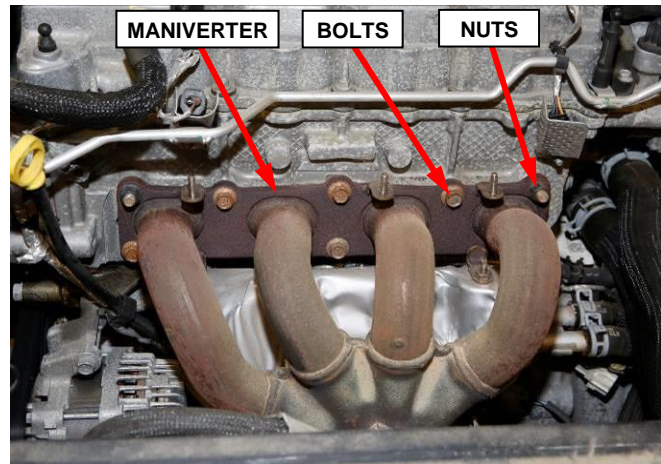

Figure 10 – Maniverter to Engine
17. Remove the fasteners, six bolts and two nuts, securing the maniverter to the engine cylinder head (Figure 10).